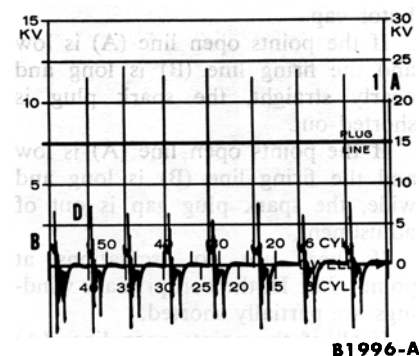

FIG. 11—Normal Secondary Circuit 15 KV Pattern
3. Adjust the EXPAND control so that the right end of the pattern is at the 6-cyl 0° dwell mark on the scope screen (Fig. 11).
A normal eight cylinder engine 15 KV pattern is shown in Fig. 11. The six cylinder pattern would have six similar images. The spark plug line (A) for the No. 1 spark plug is on the extreme right hand side of the screen. The remainder of the No. 1 firing pattern is on the left side of the screen. The remainder of the patterns are shown from left to right in their firing order.